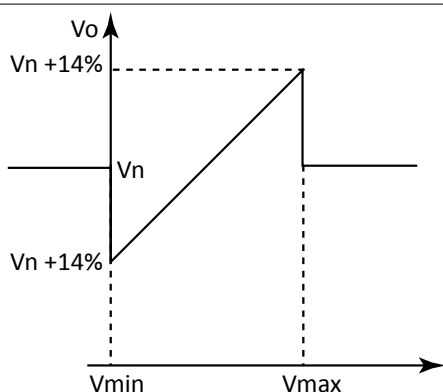

Figure 22- Without saturation of the output voltage
- Do not consider the value and, with regulation, go back to the voltage value set via trimmer (if enabled) or via parameter P[19] (Figure 22-);